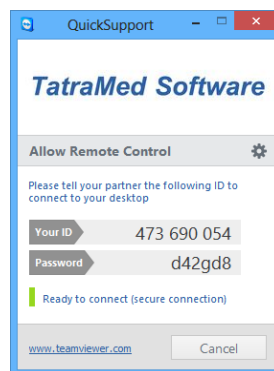

Figure 474 – TeamViewer QuickSupport with your ID and password
2. Be prepared to provide your ID and password, which are displayed in the TeamViewer QuickSupport application (see Figure 474), and call the TatraMed Software customer support center (see 28 Contact).